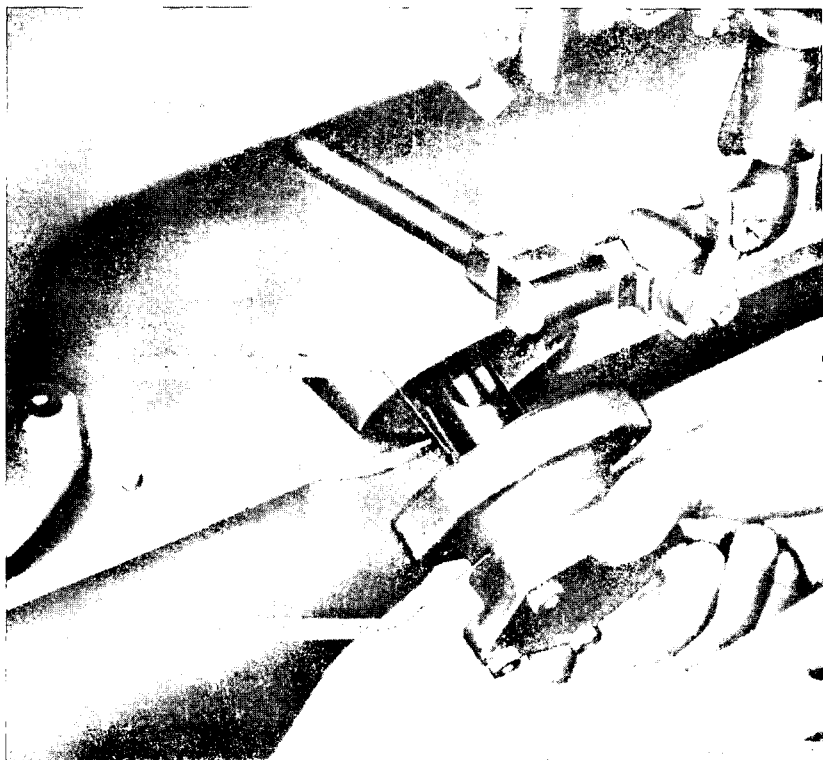

Figure 26. Removing oil pump assembly.
- (1) Remove fuel pump heat shield.
- (2) Disconnect fuel pump-to-manifold, to-windshield wiper, to-carburetor, and fuel filter-to-fuel pump lines.
- (3) Remove screws securing fuel pump to cylinder block and remove fuel pump.
- h. Oil Pump Assembly (fig. 26).*
- (1) Remove oil pump mounting bolts.
- (2) Pull oil pump out of cylinder block.
- (3) Remove oil pump gasket.